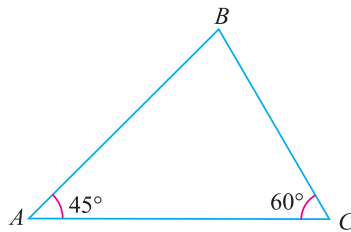

Fig. 22.4.
**Example 22.2.** Three links are hinged together to form a triangle ABC as shown in Fig. 22.4.